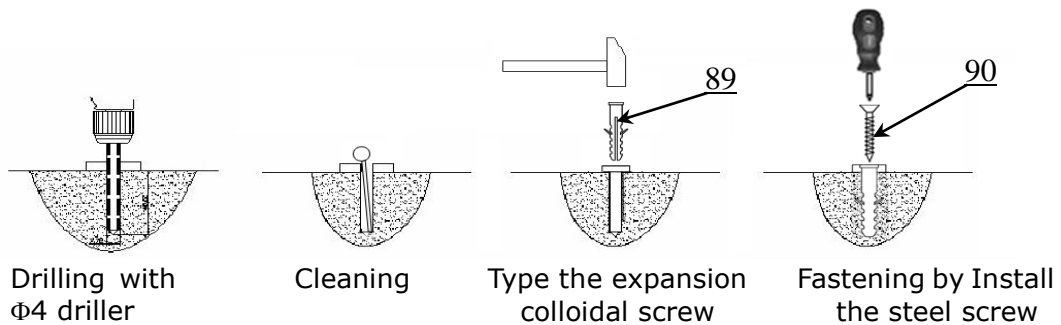

Fig. 37
2. Install the oil hose cover (See Fig. 37).